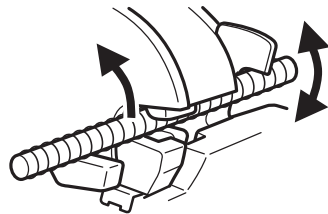

Fig. 4
2. Removing the rebar during cutting operation (Fig. 4)
When this occurs, you can either pull the switch trigger again and cut off the rebar, or you can free the rebar by bringing the upper cutter back up to the home position by carrying out the following procedure. (Fig. 4)